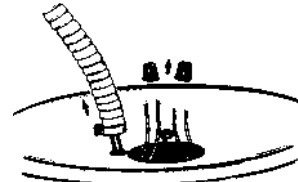

FIGURE 2.
- ④ Check again to make sure the electrical supply is turned "OFF" to the water heater. Then disconnect the electrical supply connection from the water heater junction box. See Figure 2.